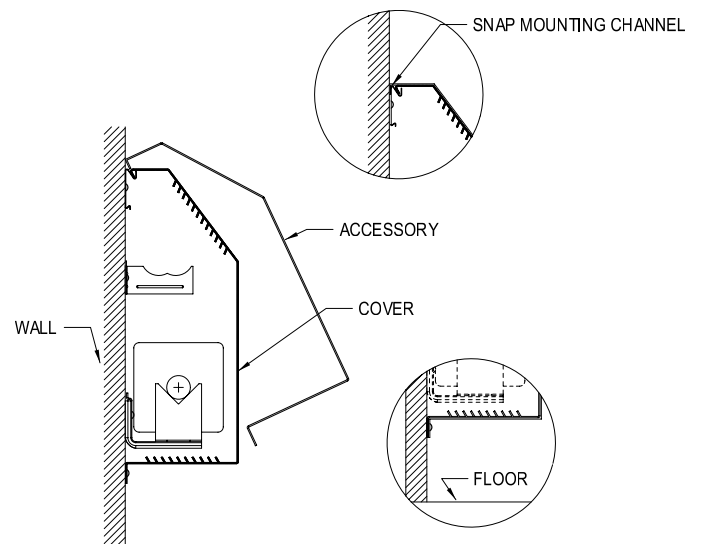

FIGURE H-6
- (6) Install accessories between the wall and wall channel at the top and around the cover at the bottom. Secure accessory to wall using suitable fasteners. (FIGURE H-6)